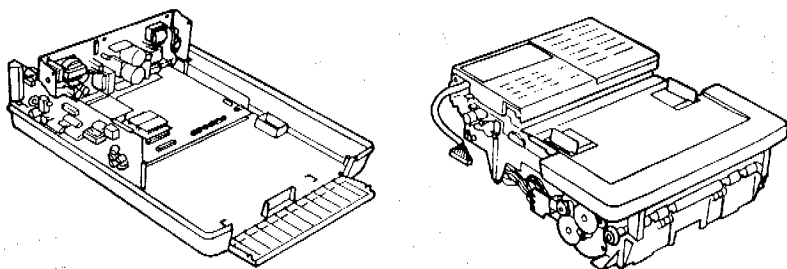

Fig. 4-4-11 Basic disassembly procedure 3
6. Fig. 4-4-11 shows the result of basic disassembly procedure 3.